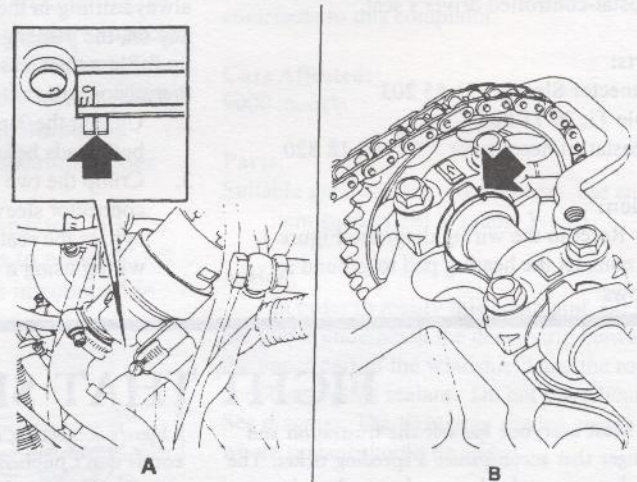

Figure 2: Aligning crankshaft and camshafts
3. Align the crankshaft and camshafts with their respective timing marks. Lock the flywheel in place using special tool P/N 83 92 987. See Figure 2, A & B.